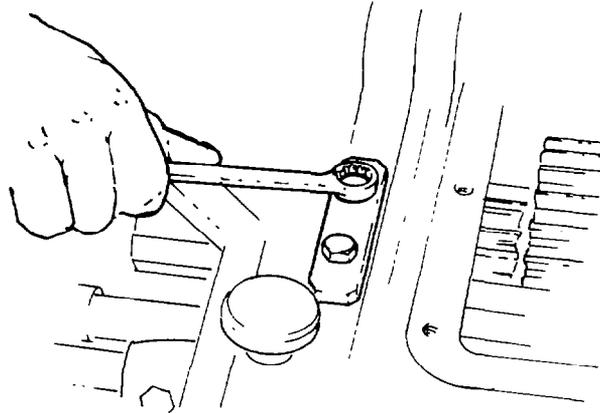

Fig. 170 — Removing Detent Ball Cover
- Carefully remove the selector shaft detent ball cover (cover is spring loaded), springs and balls (see fig. 170).